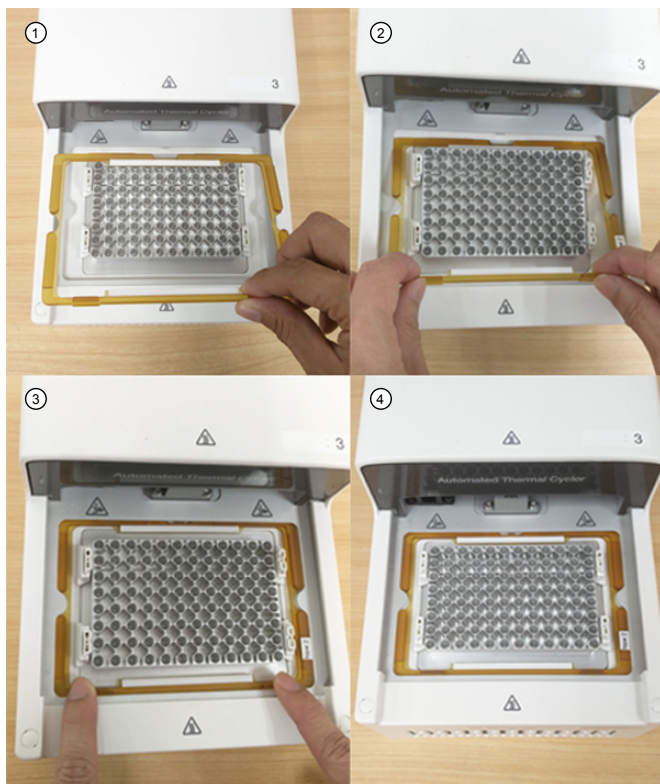

Figure 5 Install full-skirted plate adaptor
- ① Slightly push the tabs highlighted in red.
- ② Grab the bottom of the adaptor, and tilt up.
- ③ Remove the adaptor.
- To install full-skirted plate adaptor follow the instructions in Figure 5.